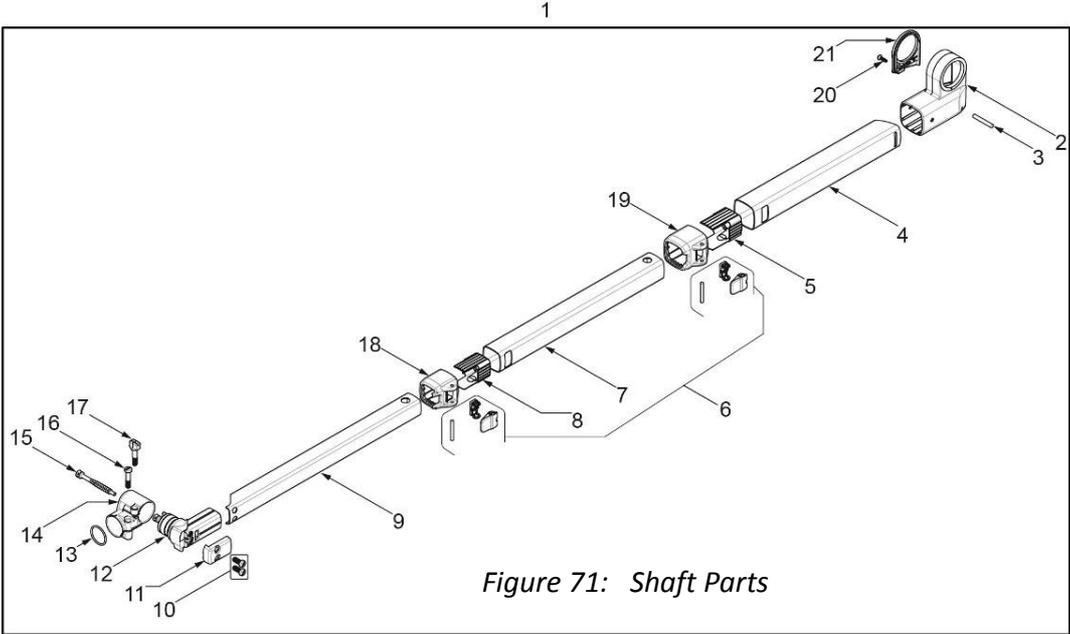

Figure 71: Shaft Parts
- a. The 3004-0046 Shaft Kit is a line replaceable unit and Figure 71 illustrates the major parts.